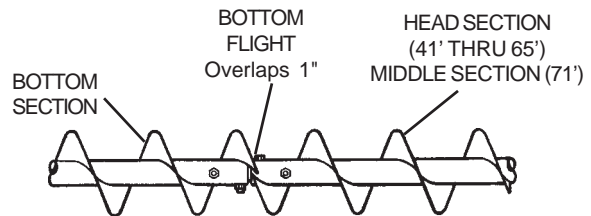

FIG. 3
Step 1. Bolt the sections of auger flighting together, using two 7/16" x 3" (grade 8) black hex head capscrews and side depress locknuts. The lower section of flighting will lap the upper section flighting about one inch on the side toward the auger outlet. See Figure 3. NOTE: Flight connection between middle and head section on the 71' model does not lap.